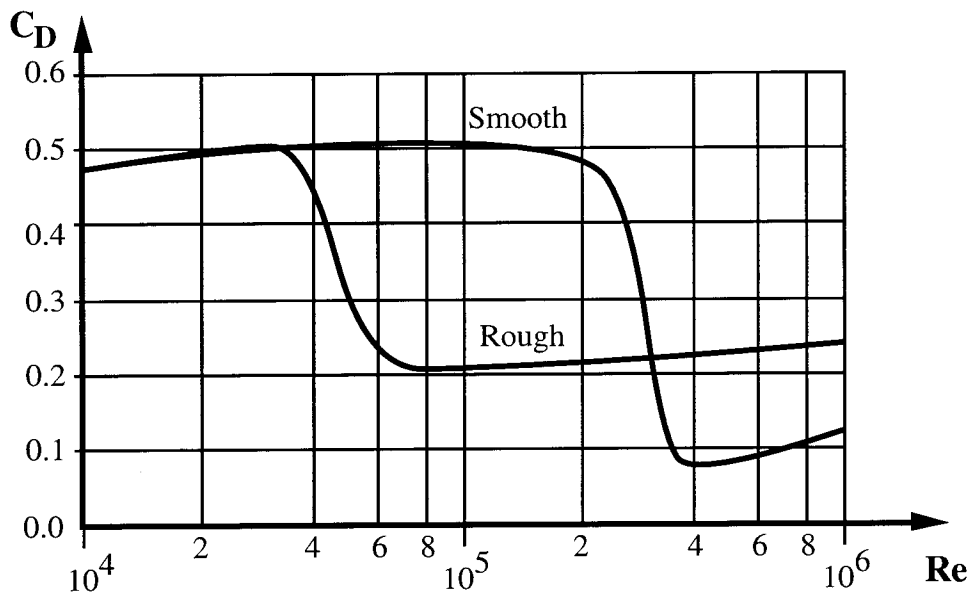

Figure 1. C_D versus Re for rough and smooth spheres.
- (b) (20 marks) Two steel balls of 35 mm diameter are dropped into the ocean. One ball is smooth and the other is very rough. Find the terminal velocities of both balls. Are the results sensible? Figure 1 below may be of assistance. This figure is repeated on the last page. A graphical solution is acceptable.